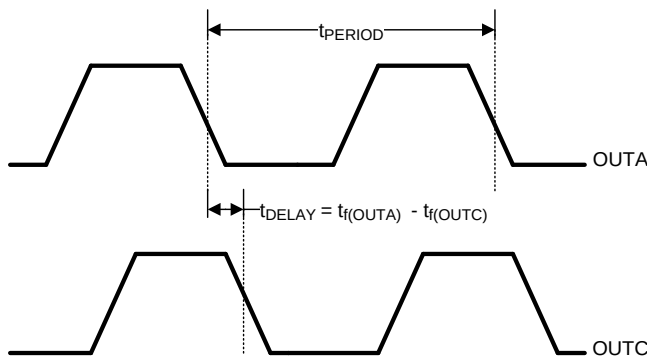

Figure 1. Same Applies to OUTB and OUTD
(2) Ensured by design. Not production tested.
(3) Output delay is measured between OUTA and OUTB, or OUTC and OUTD. Output delay is defined as shown below where:  $t_{f(OUTA)}$  = falling edge of OUTA signal,  $t_{r(OUTB)}$  = rising edge of OUTB signal (see Figure 1 and Figure 2).
(6) Output delay is measured between OUTA and OUTB, or OUTC and OUTD. Output delay is defined as shown below where:  $t_{f(OUTA)}$  = falling edge of OUTA signal,  $t_{r(OUTB)}$  = rising edge of OUTB signal (see Figure 1 and Figure 2).